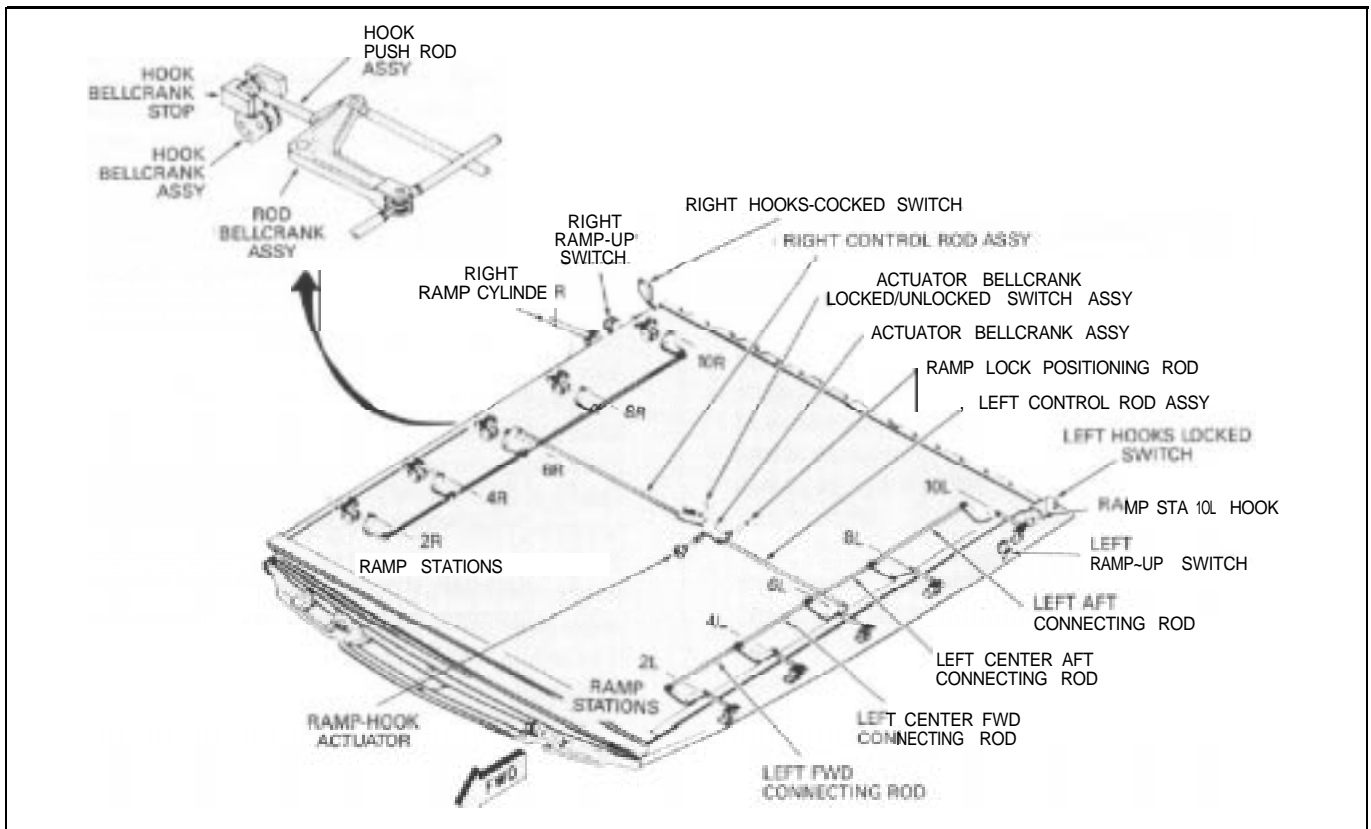

Figure 19. Ramp locking system components.
- Identify and remove the right and left aft connecting rods (Figure 19).
- Use firm hand pressure to verify that the inboard arms of the rod bellcranks for the ramp station 10 hooks are in the aftmost position. This ensures that the hook bellcranks for the station hooks are positioned against the hook bellcrank stops (see Figure 19). Use the hand pump to slowly apply 500 psi *maximum* pressure to the ramp cylinders, attempting to lower the ramp. If both hooks are in the proper overcenter position, they will remain locked while this pressure is applied to the cylinders.
- Identify and remove the left and right side center forward connecting rods (Figure 19).
- Identify and remove the right and left center aft connecting rods (Figure 19).
- b. Remove the right and left center aft connecting rods (Figure 19).
Figure 19). Reinstall the left and right center aft connecting rods in the ramp station 6 rod bellcranks lower clevis, and in the lower clevis of the ramp station 8 rod bellcranks. Install the attaching hardware and tighten the nuts only as required to eliminate end play in the bolt. Be careful not to overtighten.